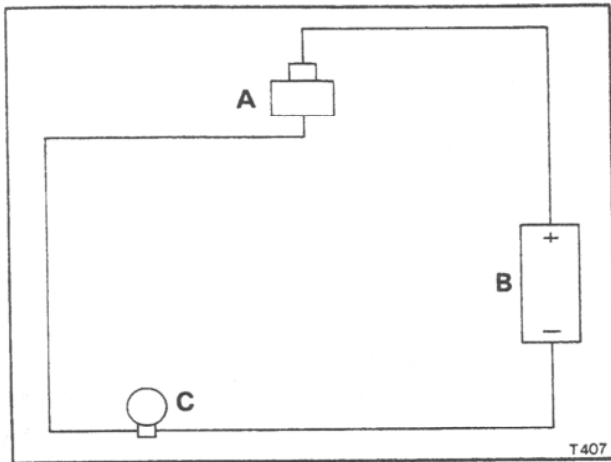

Fig. G34 Pressure switch test circuit
6. Connect a battery and test lamp in series to the pressure switch as shown in Figure G34. The test lamp should illuminate, confirming that the switch contacts are made, denoting no brake fluid pressure.